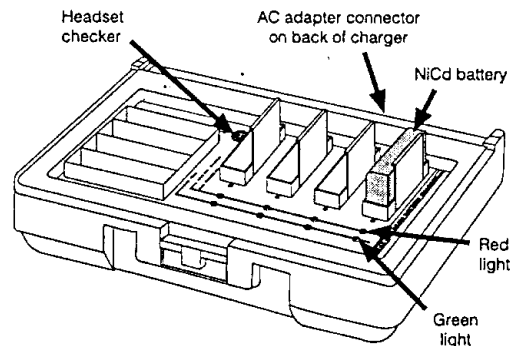

Figure 8.
3. Battery Charger (See Figure 8 on page 5.)
Place up to four batteries in the charger to charge at the same time, as shown in Figure 8. A few seconds after each battery is placed in the charger, the red CHARGING light on the panel adjacent to the battery, will indicate the battery charging status. See the CHARGING LIGHT STATUS TABLE for a detailed explanation of what is happening. When a battery is fully charged, the green READY light on the panel adjacent to it will light. (approximately 4 hours) It can then be placed back into a Communicator.